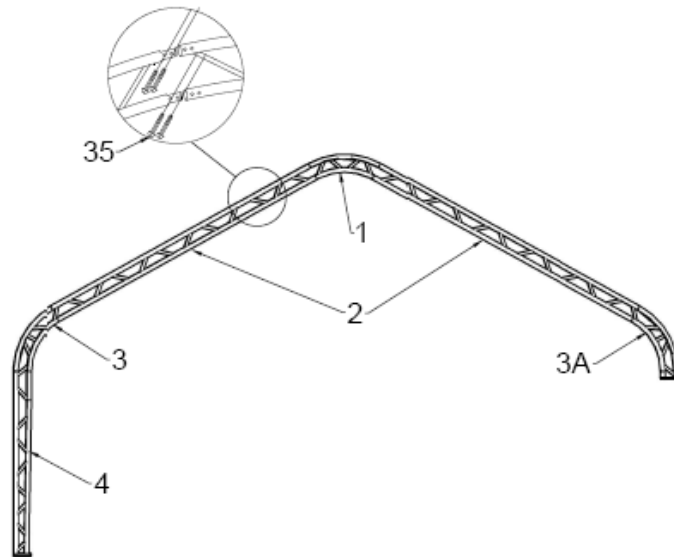

Figure 4
2.Assembly the second,forth,sixth and eighth group arch by turns as Figure 4 shows , connect the Roof bent tube(No.1),Sidewall bent tube(No.2),Shoulder bent tube(No.3),Shoulder bent tube for side open door(No.3A&3)and Standing leg(No.4) with Carriage bolt M8x70(No.35), then put the arch into tube of the Base flange by hoist.(see Figure 4)